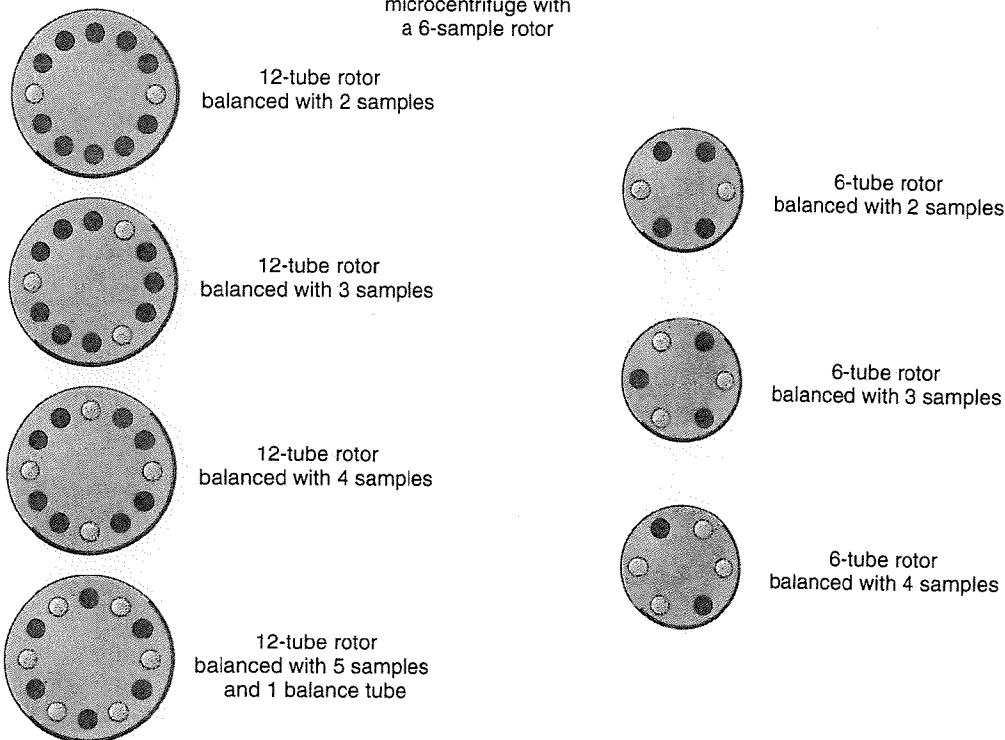

Figure 3.7. Centrifuge Basics.
- Along with a balance tube, spin tube D in the microcentrifuge for 1 to 2 seconds (see Figure 3.7).